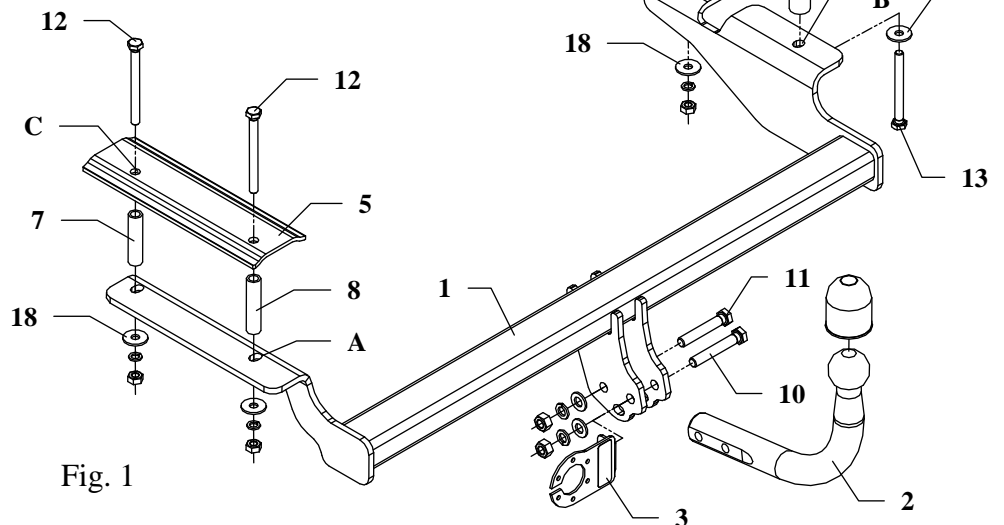
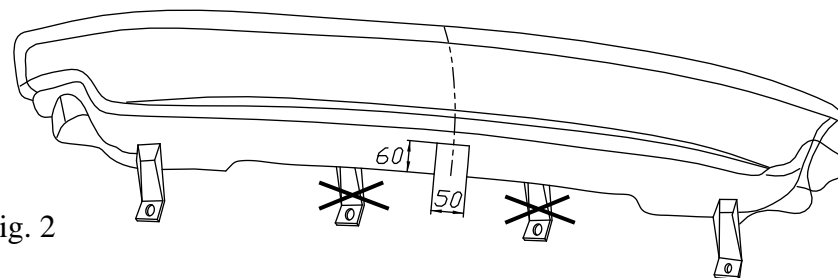

Fig. 1
Fig. 2
1. Disassemble rear lights unit and bumper. Cut out handles of the bumper and saw off fragment in its axis according to figure 2.
4. Underneath the car drill holes A and B into boot using bit $\varnothing 11\text{mm}$. Inside boot apply fish-plates (pos. 4 and 5). Mark holes C and D. Remove fish-plates and drill marked points C and D by bit $\varnothing 11\text{mm}$.
7. Into drilled holes put suitable distance sleeves (pos. 6, 7, 8 and 9) as shown in the drawing.
8. Inside boot apply fish-plates (pos. 4 and 5). Put in bolts M10x110mm (pos. 12) and M10x100mm (pos. 13).
9. Underneath the car, on protruding bolts apply main bar of the towbar (pos. 1) and fix as shown in the drawing.
11. Fix tow ball (pos. 2) using bolt M12x75mm (pos. 10) and M12x70mm (pos. 11). With bolt M12x75mm fix also a socket plate (pos. 3). See figure 1.